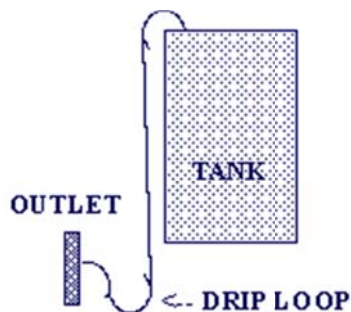

Figure 1
- A “drip loop” should be arranged and position your aquarium stand and tank to the side of the power receptacle to avoid the device or power receptacle from getting wet. Please refer to Figure 1 below.